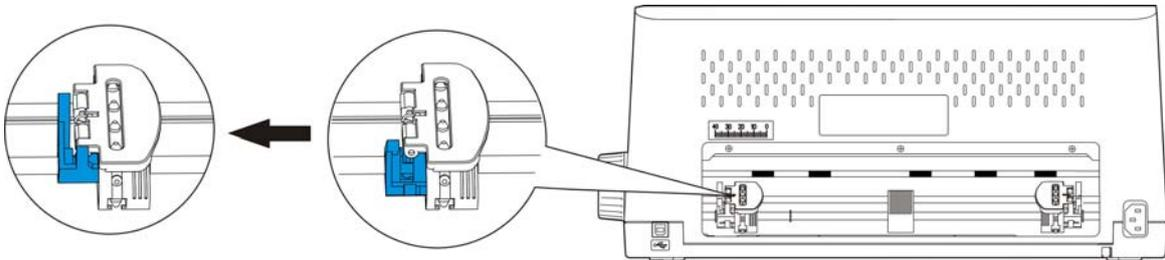

Figure 3-8 Open the left control lock
3. Move the tractor left sprocket wheel to the proper position of left side. Press the sprocket wheel lock lever to lock the left sprocket wheel. Move the right sprocket wheel to the proper position, but do not lock its position (as shown in Figure 3-8).